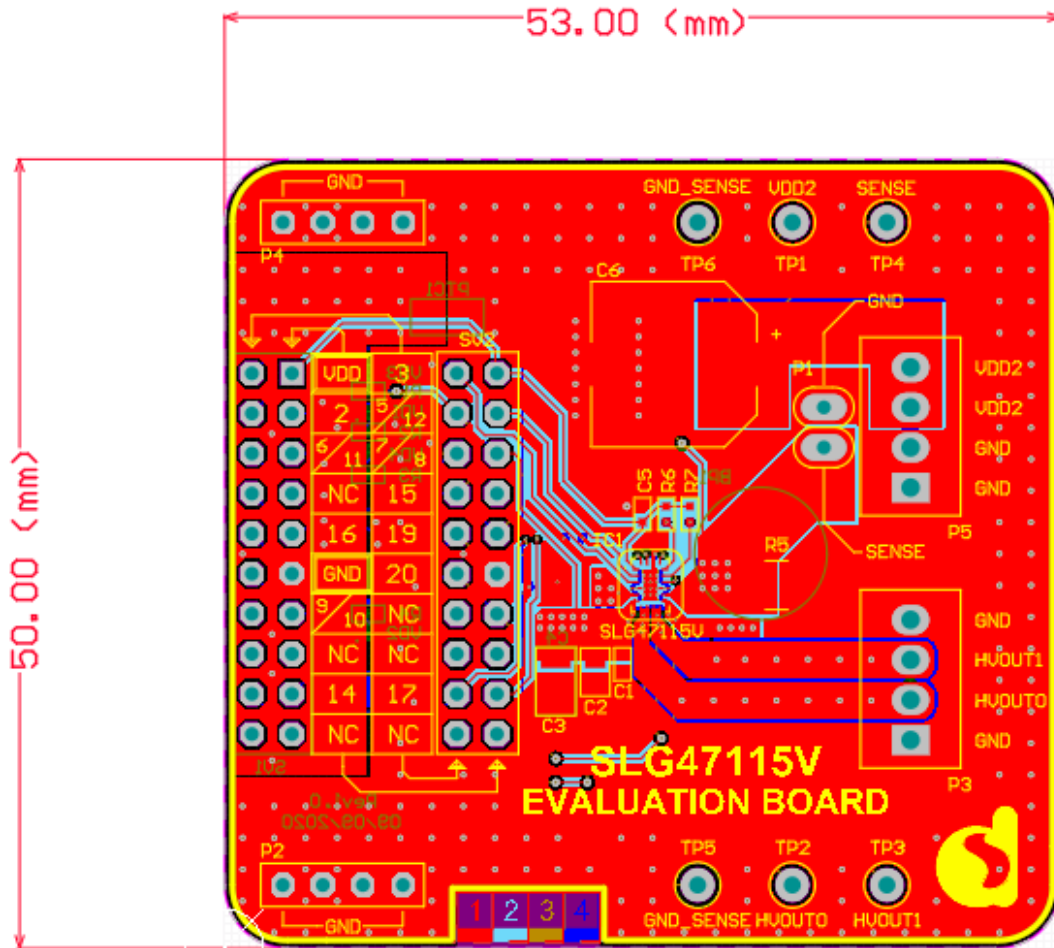

Figure 3. SLG47115V Evaluation Board Dimensions
- Figure 3. SLG47115V Evaluation Board Dimensions7